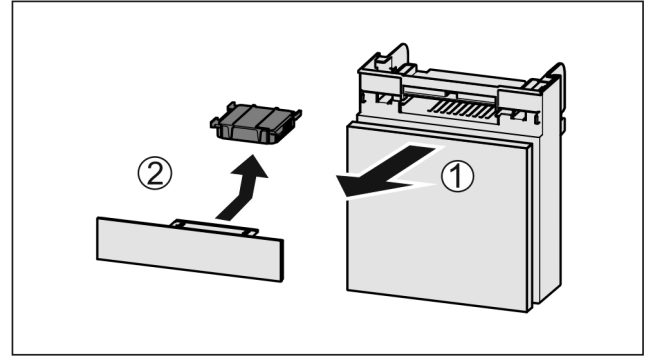

Fig. 38
- ▶ Pull out the compartment Fig. 38 (1).
- ▶ Remove the carbon filter Fig. 38 (2).